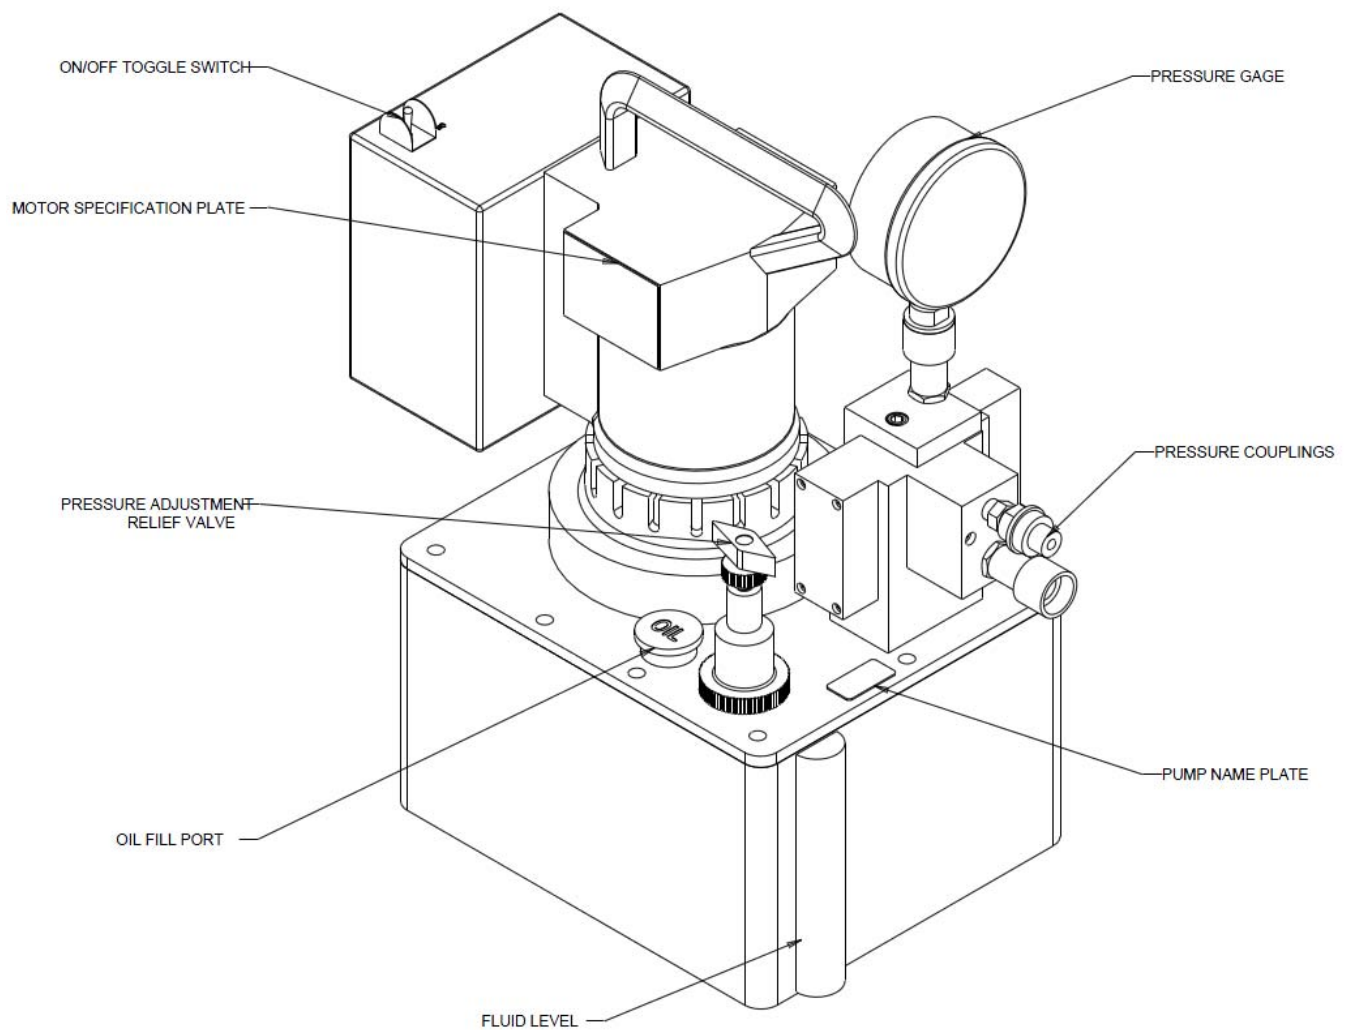

Figure 13 Electric Pump
2. Locate the specification plate on the pump to ensure the proper electrical connection. Having the proper current will protect against dangerous overloading and motor burnout. See Figure 13 for location of specification plate.
2. Place the on/off toggle switch (Figure 13) to the on position and the rocker switch on the control pendant to the OFF position.